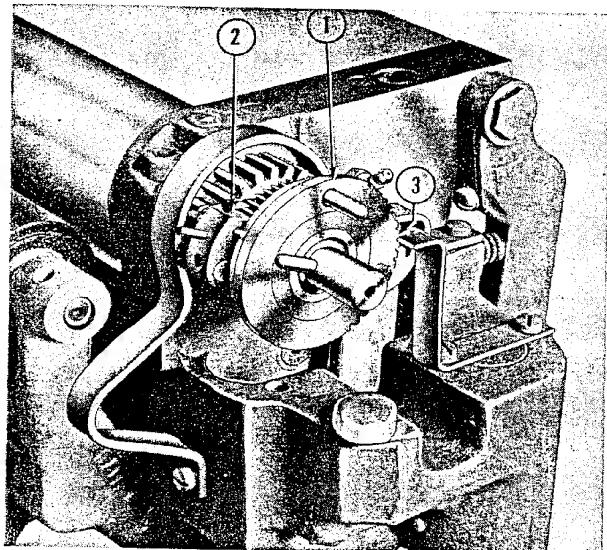

Figure 30—Fountain Blade Roller Feed Setting
(2) HOW TO SET FOUNTAIN ROLLER FEED. (See figure 30.)—The fountain roller is geared and timed to turn slightly with each press impression. The amount that the roller turns is determined by the setting of a cam set-wheel (1) which controls the movement of the fountain roller pawl and ratchet (2). Figure 30 shows the recommended setting (set-wheel spring (3) engaged in eighth notch of set wheel) when starting a job. With set wheel in this position, each notch in set wheel will represent  $\frac{1}{8}$  full ink flow, thereby permitting, by moving the position of the spring, ink flow to be reduced as low as  $\frac{1}{8}$  full flow.